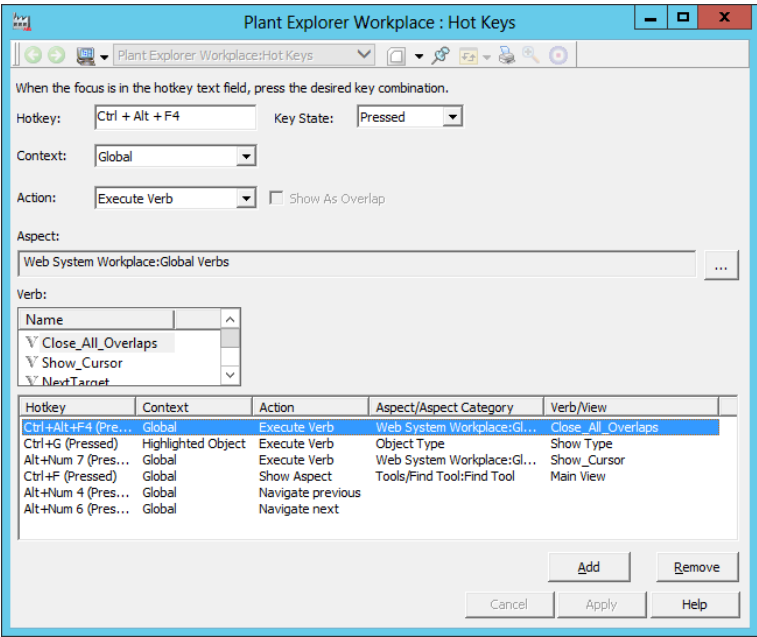

Figure 44. Hot Key Aspect
- 3. Select hot key combination in the **Hotkey** text field. See Figure 44.